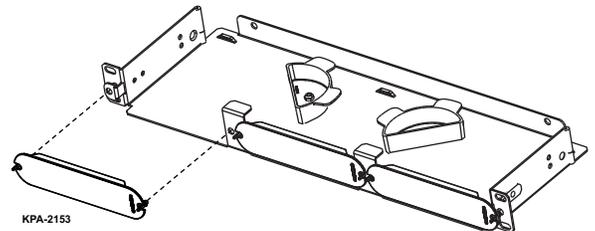

Figure 2 — Remove Blank Panels
Step 1: Determine the location for installing the adapter panel in front of the unit. Press the tabs at each end of the blank adapter panel to remove it (Figure 2).
Step 2: Determine the location for installation of the module in the front of the unit. Press the tabs at each end of the blank adapter panel to remove it (Figure 2).